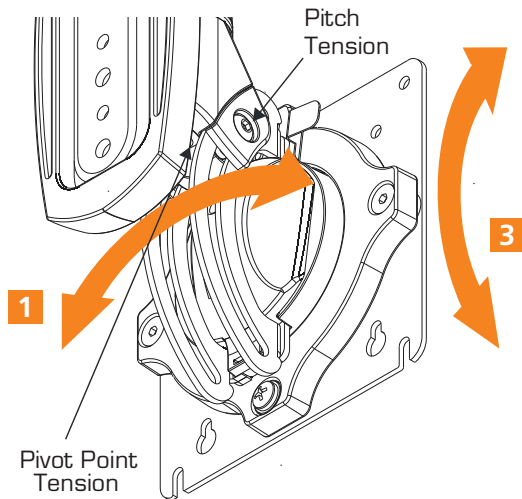

Figure 1-22 How to change the orientation of the Lingua RAD mount
1. Adjust pitch to desired tilt position. (See Figure 1-22 )
2. Adjust pitch tension screw to change the adjustment tension. (See Figure 1-22 )
3. Adjust pivot position as desired. (See Figure 1-22 )
4. Use 3/16" hex key (Q) to adjust pivot point tension screws to change pivot adjustment tension. (See Figure 1-22 )